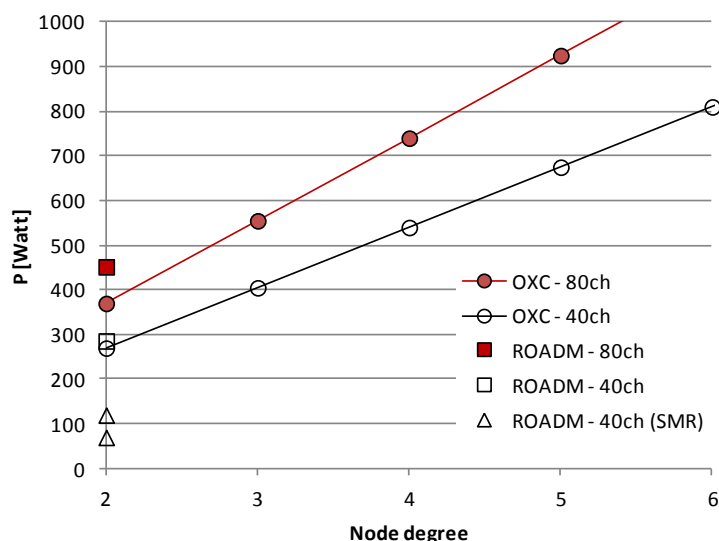

Figure 4 Typical power consumption of ROADMs and OXCs (add/dropping for each degree), not including overhead power
- From Figure 4: ROADMs consume slightly more power than 2-degree OXCs. This is because the WSS cards used in the ROADMs consume more than the WXC cards used in the OXCs.
- From Figure 4: the SMRs consume significantly less than the combined systems.
- From Figure 4: OXC power consumption scales nicely with the degree (apart from the overhead power consumption, which is not shown in the figure)